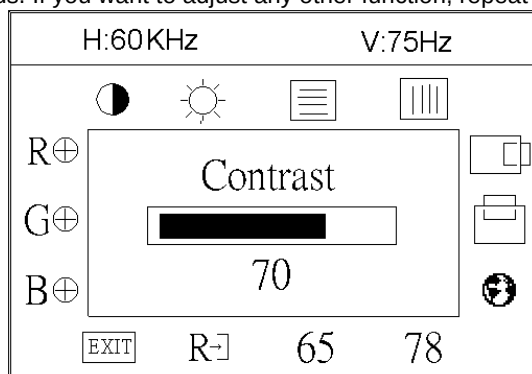

Figure 5 The OSD Message
1. Press the Shuttle Knob to make the OSD window appear. See figure 5.
2. Rotate the Shuttle Knob to select the desired function. See figure 5.